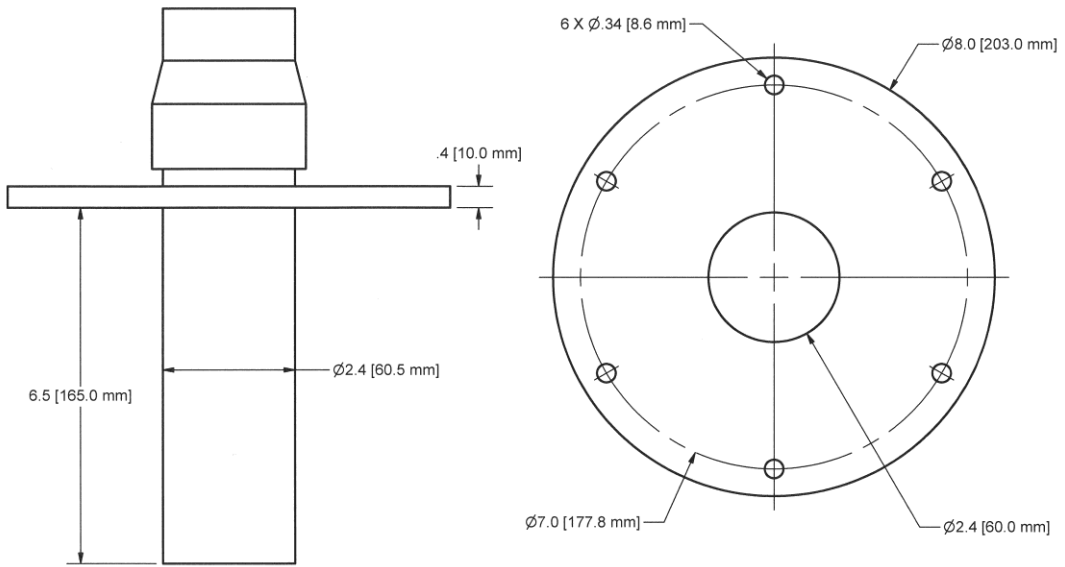

Figure 5: Flat mounting flange / pipe assembly
- Flange Mounting** - The Model WC inventory monitoring sensor includes a mounting flange / pipe assembly. See Figures 5, 6, 7 and 7a.